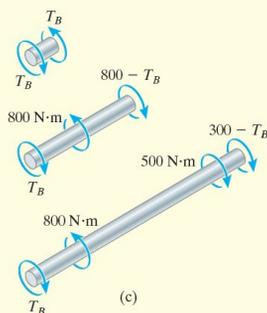

Fig. 5–23
**Equilibrium.** By inspection of the free-body diagram, Fig. 5–23b, it is seen that the problem is statically indeterminate since there is only *one* available equation of equilibrium and there are two unknowns. We require
This condition can be expressed in terms of the unknown torques by using the load–displacement relationship,  $\phi = TL/JG$ . Here there are three regions of the shaft where the internal torque is constant. On the free-body diagrams in Fig. 5–23c we have shown the internal torques acting on the left segments of the shaft which are sectioned in each of these regions. This way the internal torque is only a function of  $T_B$ . Using the sign convention established in Sec. 5.4, we have
The negative sign indicates that  $T_A$  acts in the opposite direction of that shown in Fig. 5–23b.